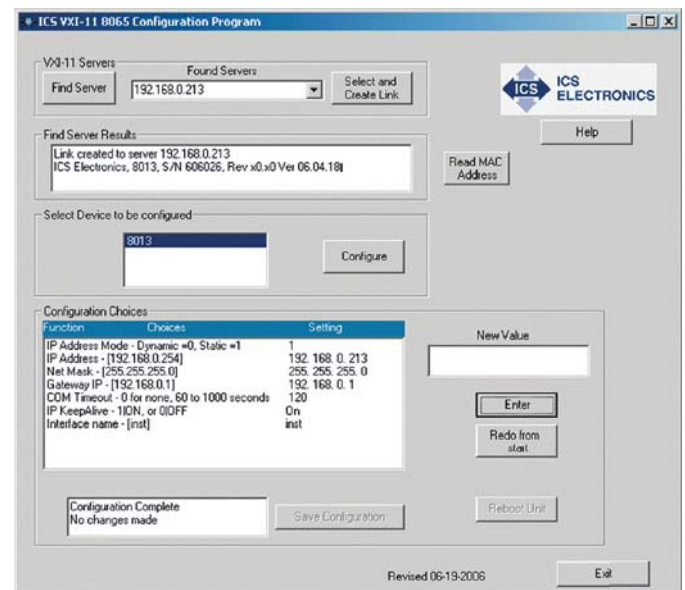

Figure 4-8 VXI-11 Configuration Utility (Showing all configuration choices with no changes)
4. Run the VXI11\_config program. The Configuration Utility opens a window as shown in Figure 4-8. Initially only the Find Server, Help and Exit buttons are enabled on the program window. The other buttons will be enabled as you advance through the program.
9. Repeat step 8 for each configuration parameter. Figure 4-8 shows the VXI-11 Configuration Utility after all parameters have been entered for a Model 9006. Click the Redo From Start button if you need to start over or if you want to change any of the prior settings